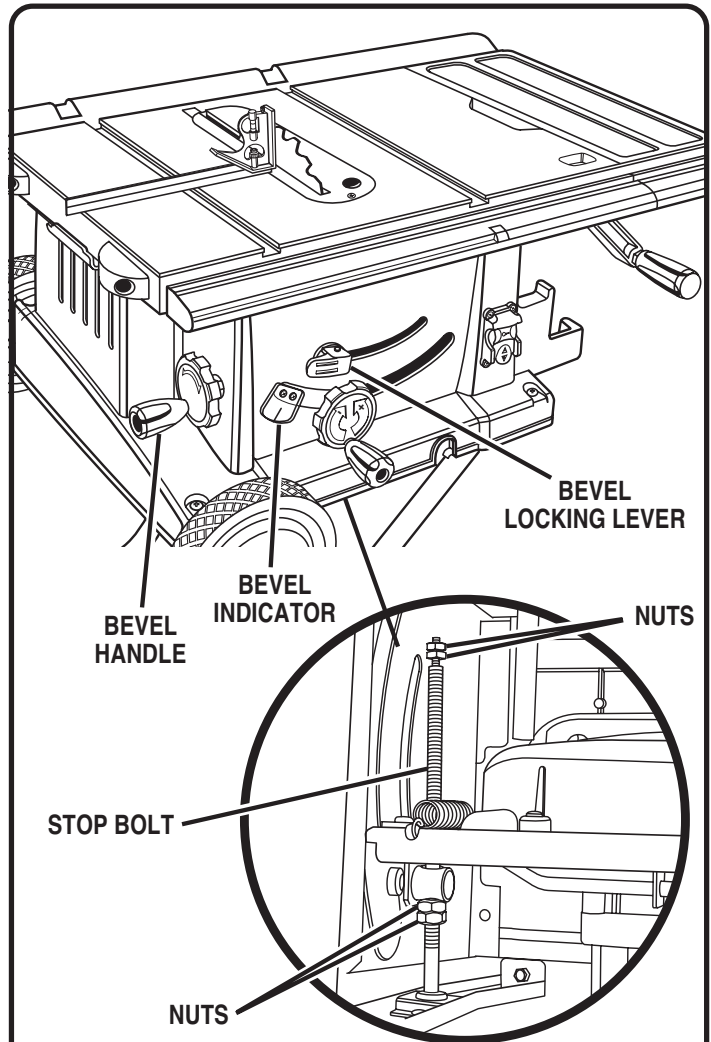

Fig. 40
See Figure 40.
- If the blade is not perfectly vertical (0°), loosen the nuts on the stop bolt inside the cabinet, position the blade, adjust the stop bolt, then retighten nut. See Figure 40, insert.
- If the blade is not an exact 45°, loosen the nuts on the stop bolt inside the cabinet, position the blade, adjust the stop bolt, then retighten lock nut. See Figure 40, insert.